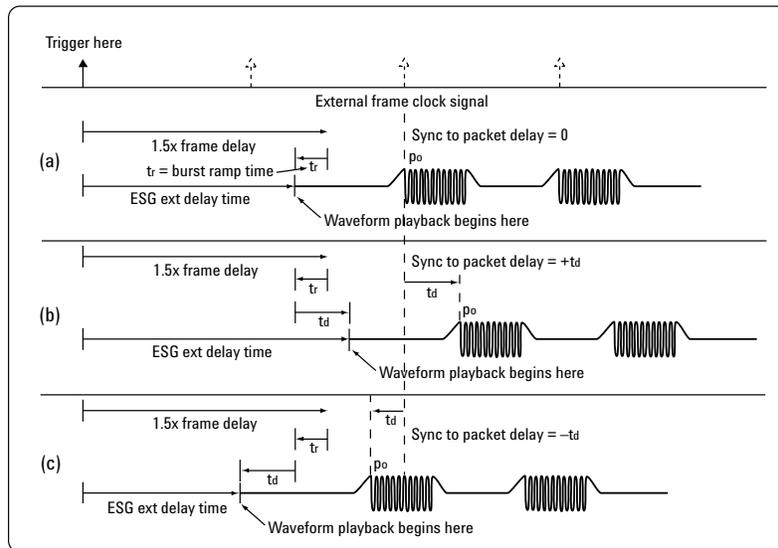

Figure 30: DH1 waveforms triggered from an external frame clock signal timing diagram.
Figure 30 shows the timing relationship of a DH1 packet sequence relative to an external frame clock signal.
Three different waveforms are shown in Figure 30, and each waveform has the same value for the burst ramp. The burst ramp,  $t_r$ , includes the power ramp and power settling times. The sync to packet delay,  $t_d$ , is different for each of the waveforms:
- Figure 30 (a)  $t_d = 0$
- Figure 30 (b)  $t_d = +$  value
- Figure 30 (c)  $t_d = -$  value